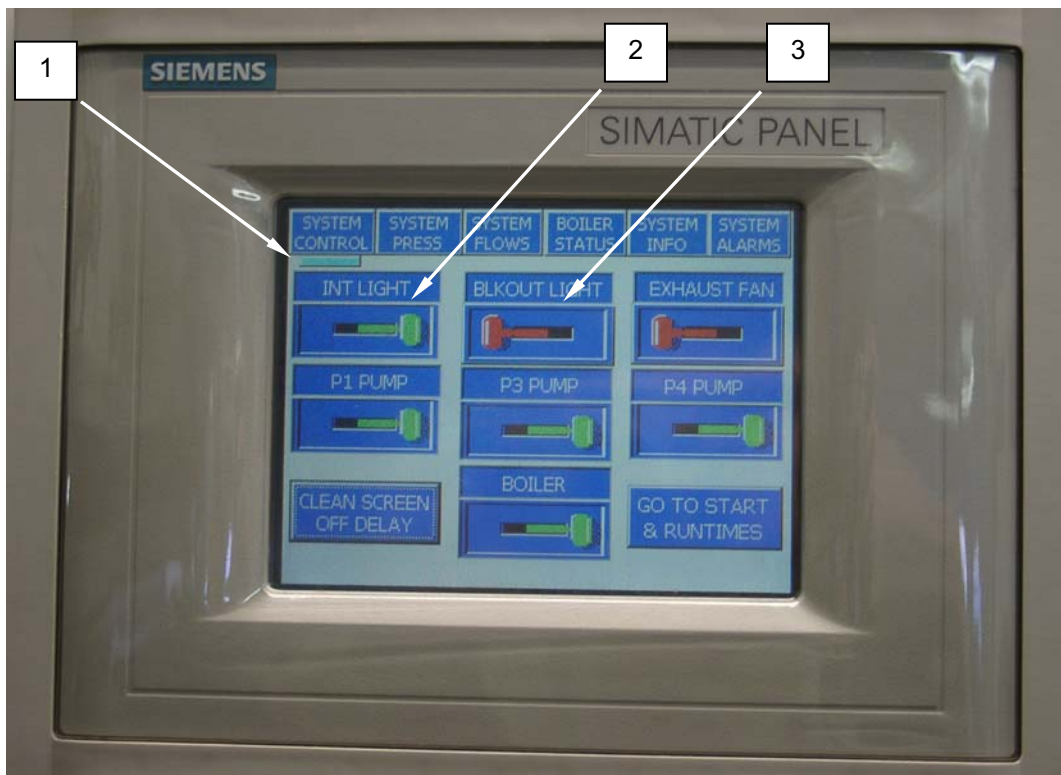

Figure 4. Operate the Blackout Lighting.
1. Ensure the System Control (**Figure 4, Item 1**) screen is displayed, and the INT LIGHT (**Figure 4, Item 2**) switch is ON. The blackout lighting will only function if the interior lighting switch is ON.
2. Turn the BLKOUT LIGHT switch (**Figure 4, Item 3**) to the ON position. The switch will turn green when the switch is ON and red when the switch is OFF. The lighting will change from standard interior lighting to blackout lighting.